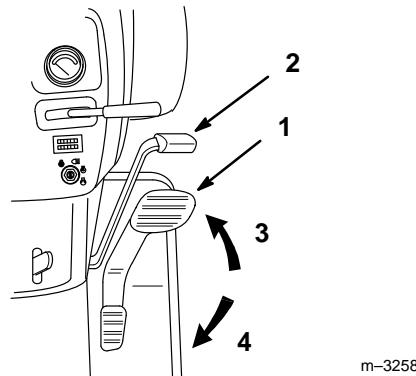

Figure 18
4. Place your foot on the traction control pedal and slowly press on the top of the pedal to move forward, or on the bottom of the pedal to move backward (Fig. 18). The farther you move the pedal in either direction, the faster the machine will move in that direction.